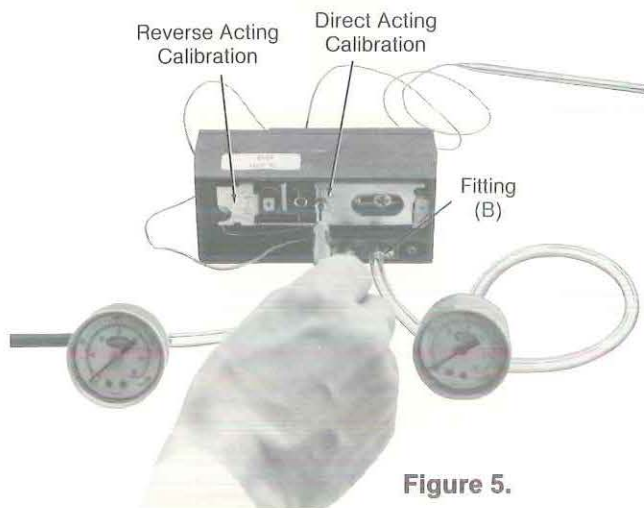

Figure 5.
Calibrate the thermostat as follows (See Figure 5):
3. If the pressure is not 8 psig (55 kPa) use a .048" Bristol wrench (Tool-82) in the calibrating screw and adjust the screw to obtain 8 psig (55 kPa). The proper screw holes for the reverse acting or direct acting calibration are labeled on the main lever (Figure 5).